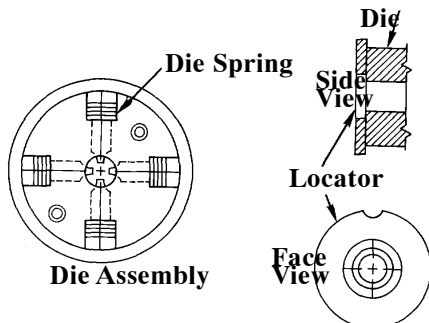

Figure 36. M22520/23-01 Accessories
95. **Accessories.** For proper operation the tool must be mated with the proper dies and locator (Figure 36).
- b. Setup tool (Figure 36).